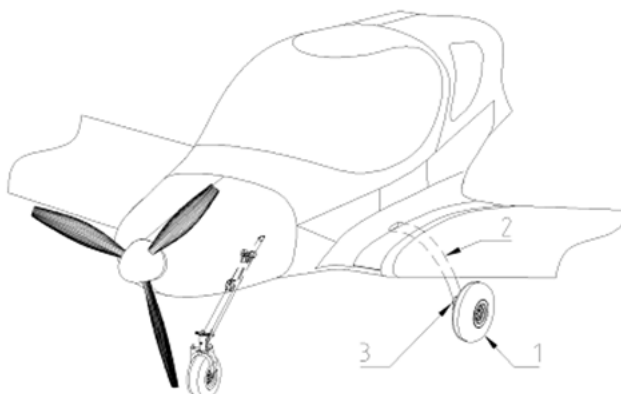

Fig. 8-1
The main landing gear (see Fig. 8-1) consists of the composite landing gear legs (2), wheel axle and wheel (1) equipped with disc brakes (3). The landing gear legs are inserted in the gear channel under the seats, where they are attached by two bolts (4) and stirrup (3) (see Fig).